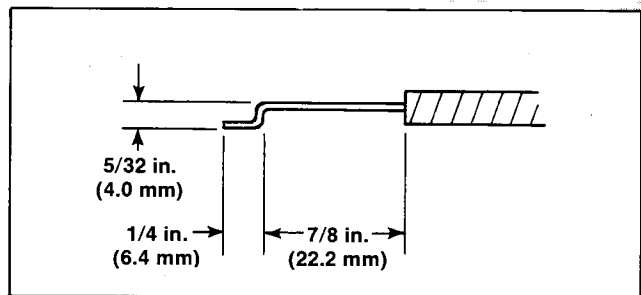

Figure 7-3. Cable Mounting Dimensions
4. Bend cable rod using dimensions shown in Figure 7-3. Install cable rod through hole in choke lever, slide cable under clamp, and tighten screw. Cable outer-casing should be about flush with end of mounting clamp.